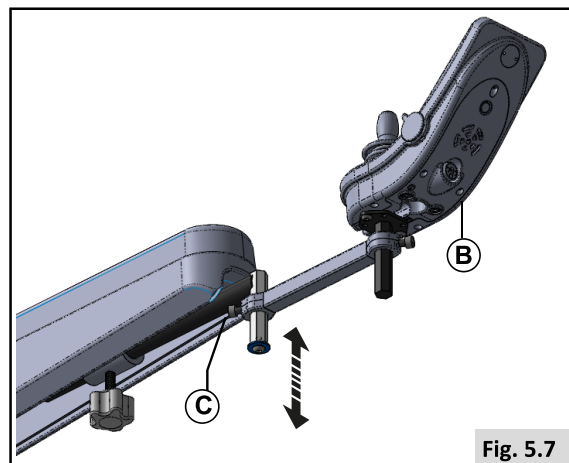
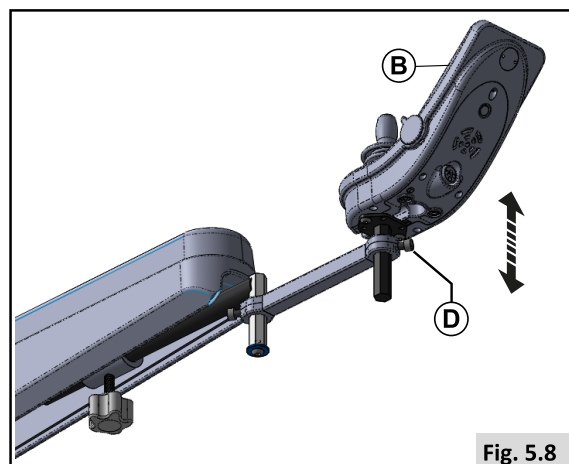

Fig. 5.7
Fig. 5.8
Pre-setting height of the controller (1) (Fig 5.7)
1. Loosen screw (C).
2. Slide controller (B) to desired height.
3. Tighten screw (C). See page 23 for M6 torque.
Pre-setting height of the controller (2) (Fig 5.8)
1. Loosen screw (D).
3. Tighten screw (D). See page 23 for M6 torque.